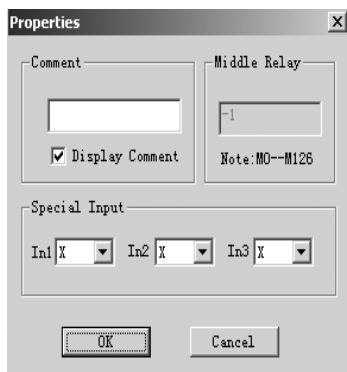

Fig 4.9 Put the blocks required in the Edit box
2. A property dialogue box appears, as shown in Fig. 4.9, and set the attributes by required.